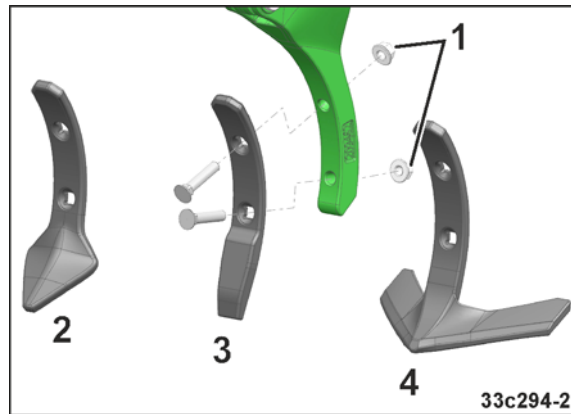

Fig. 167
1. Loosen the fastening nuts (Fig. 167/1).
3. Tighten the fastening nuts (Fig. 167/1).
Wing coulters (Fig. 167/4)	large
Heart-shaped coulters (Fig. 167/2)	↓
Narrow coulters (Fig. 167/3)	Small